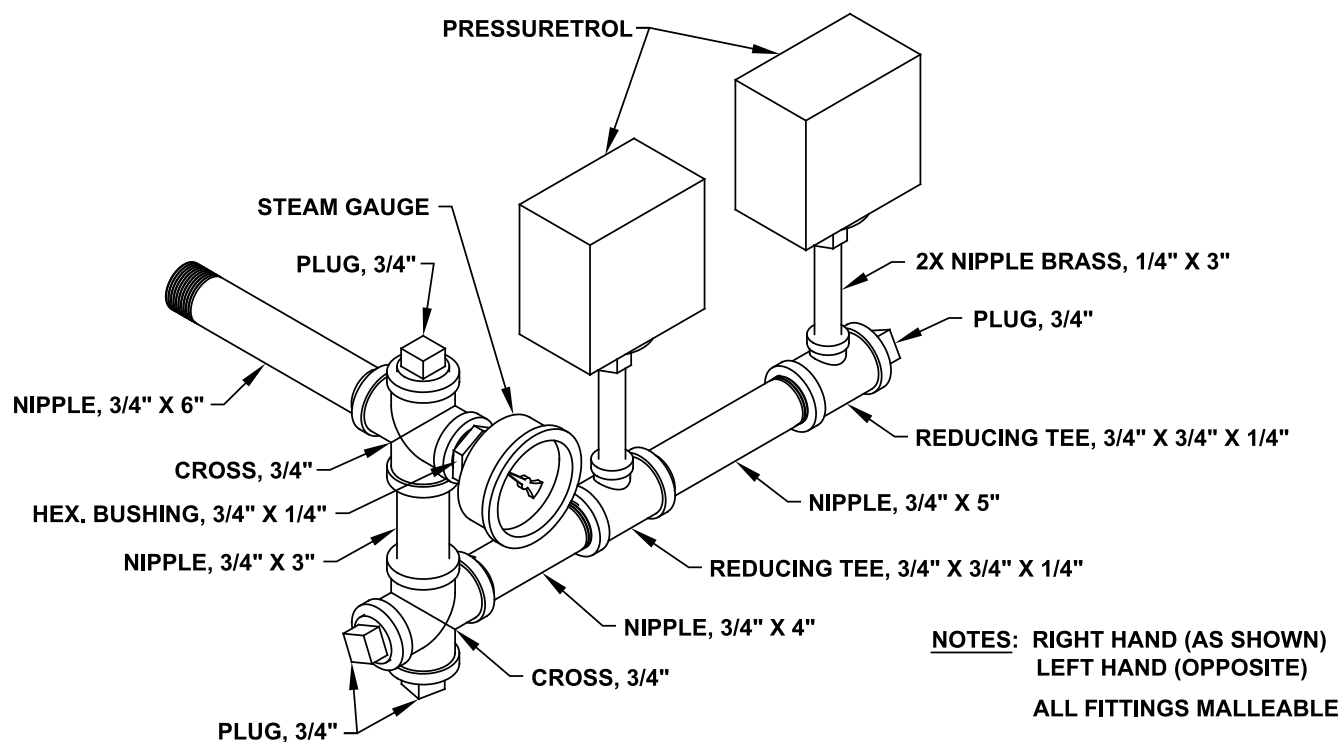

Figure 8.1: Steam Gauge/Pressuretrols Piping Arrangement
- b. **Steam Boilers:** Install pressure gauge, gauge glass trim and safety valve. See Figures 8.1, 8.2 and 11.1. For application of low water cut-off see Figure 8.5. For pump control or feeder application see Figures 8.3 and 8.4.